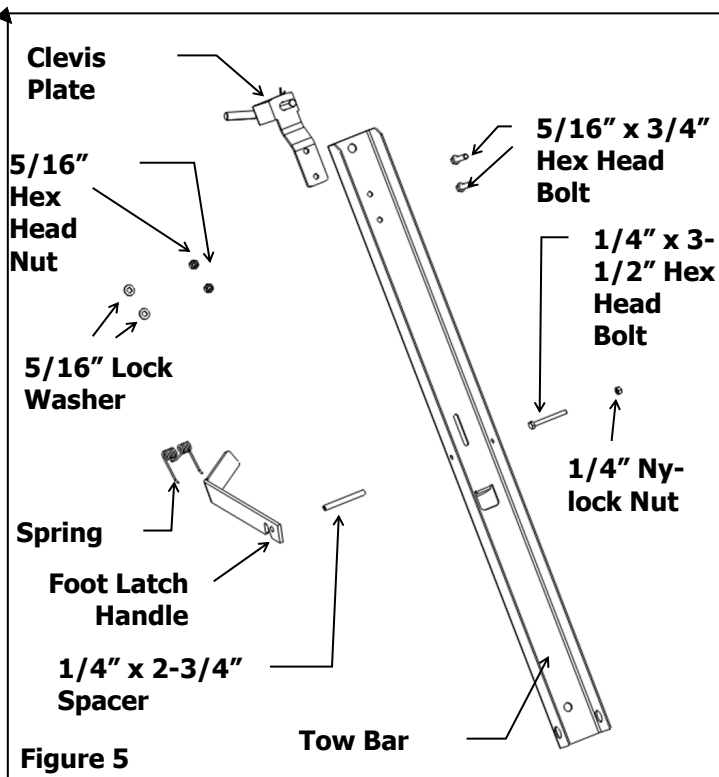

Figure 5
5. Tow Bar comes fully assembled, illustration is shown only for future reference if replacement parts might be needed. See Figure 5.